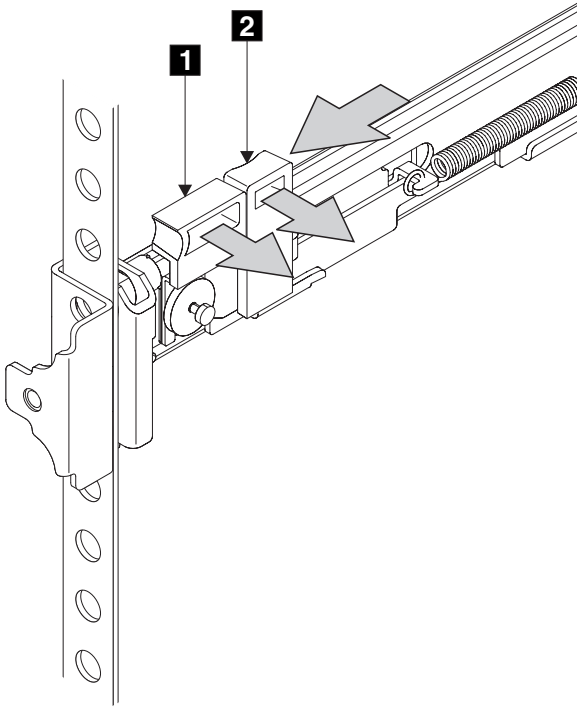

Figure 67. Closing the latch-lock carrier assembly
8. Push the latch lock **2** (Figure 67) away from the rail to release the carrier. The latch-lock carrier slides toward the front of the rack and the locating pins project through the holes that are in the front flange and in the front rail bracket.